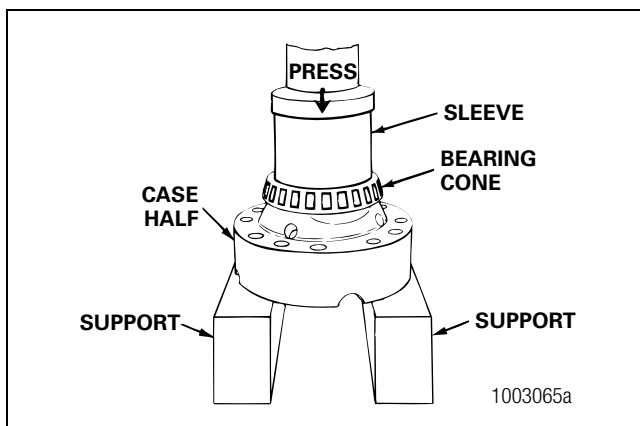

Figure 5.41
8. Use a press and the correct size sleeve to install the bearing cones on both of the case halves. Figure 5.41.